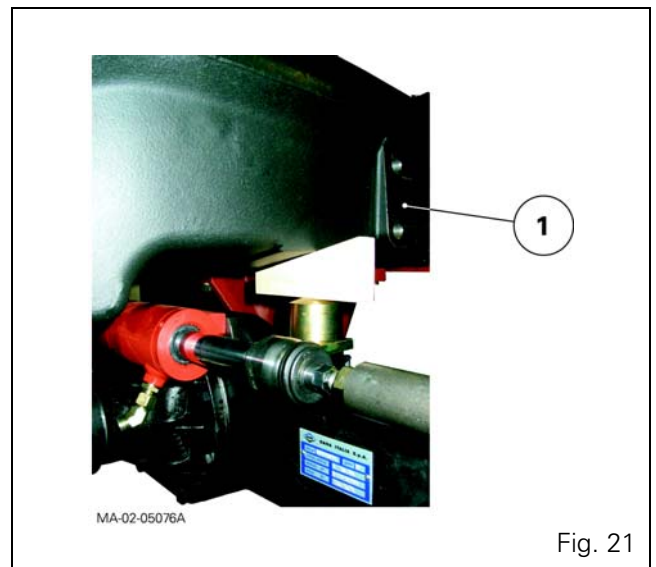

Fig. 21
47. Stop the front axle swinging by sliding a suitable wooden chock at each side of the support (1) (Fig. 21).